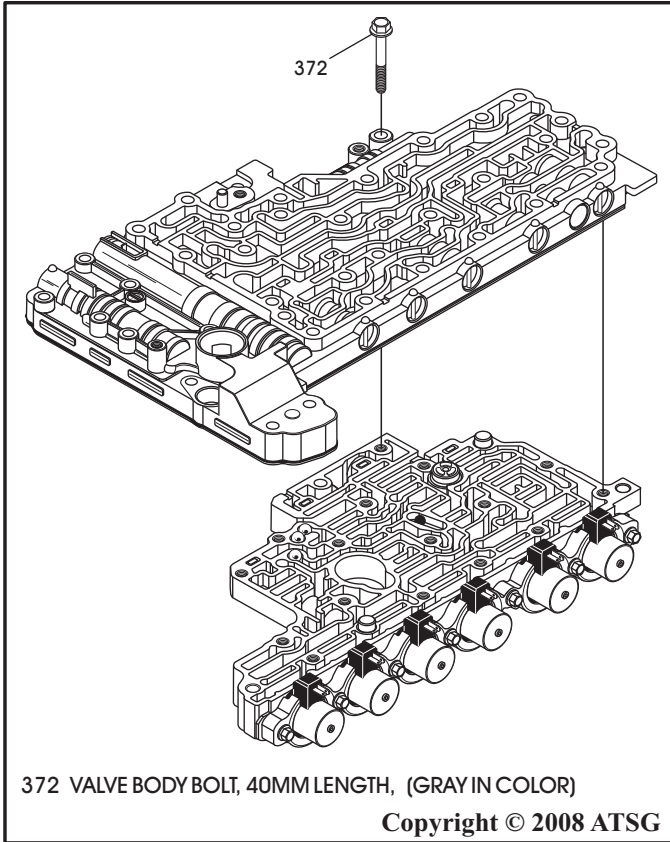

Figure 170
25. With completed solenoid body on a flat work surface, install the lower valve body over the locating dowels, as shown in Figure 170.
26. Install non-plated, 40mm length valve body bolt, as shown in Figure 170, and torque to 11 N•m (97 in.lb.).